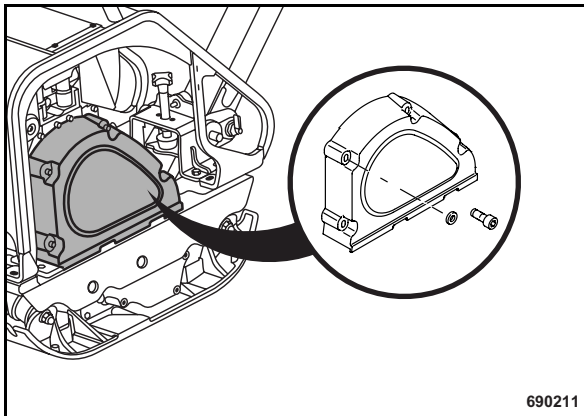
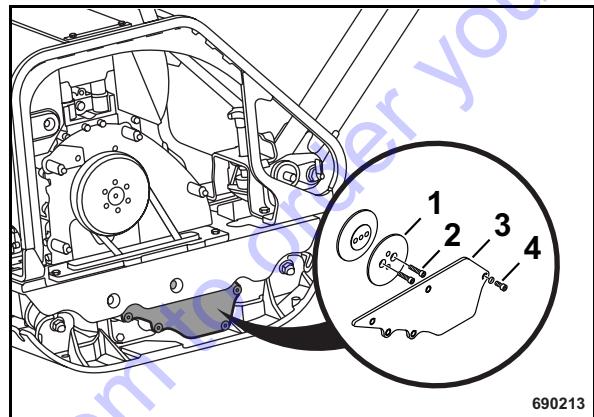

Fig. 55
Fig. 57
- Remove the V-belt guard (Fig. 55).
- Remove the safety cover (3) (Fig. 57).
- Loosen screw (2).
- Remove the front disc (1) from the centrifugal clutch.
- Attach the front disc (1).
- Tighten the screws (2) (tightening torque: 35 Nm (26 ft.lbs)).
- Reinstall the protective cover (3) and tighten the screws (4) (tightening torque 15 Nm (11 ft.lbs)).
- Install the top V-belt guard (Fig. 55).